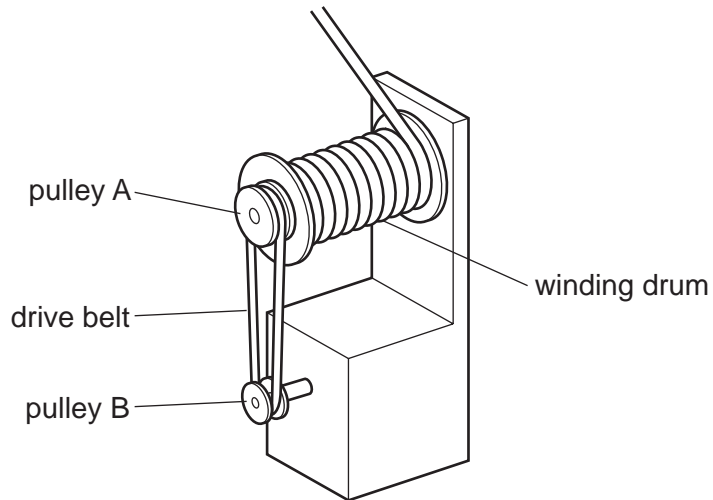

Fig. 11
- (f) Fig. 11 shows the arrangement for the winding drum on the mobile crane, driven by a simple pulley system.